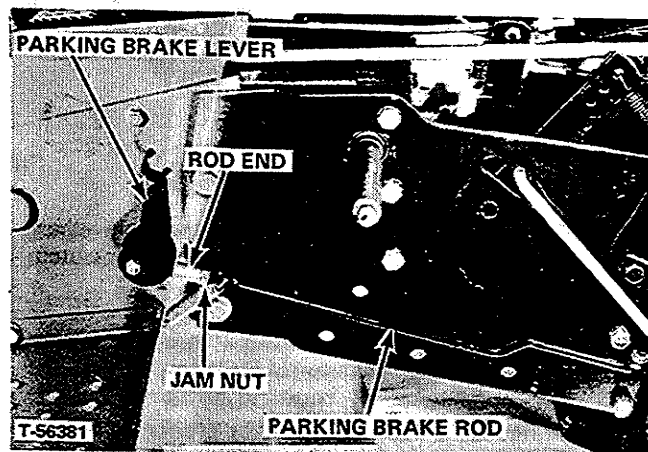

FIGURE 23
2. Loosen jam nut on parking brake rod and turn lever and rod end on parking brake rod so that brake is tight when parking brake lever is pulled up vertically as shown in Figure 23. Tighten jam nut against rod end.
2. Loosen jam nut on parking brake rod and turn lever and rod end so that brake is tight when parking brake lever is pulled up vertically as shown (Figure 23). Tighten jam nut against rod end.